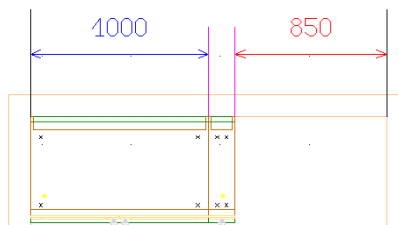

Fig. 151 – not enough room to insert a cabinet wider than 850 mm
- **red** – indicates the same distance as green but if it has turned red it means that there is no more space to locate chosen cupboard (Fig. 151).